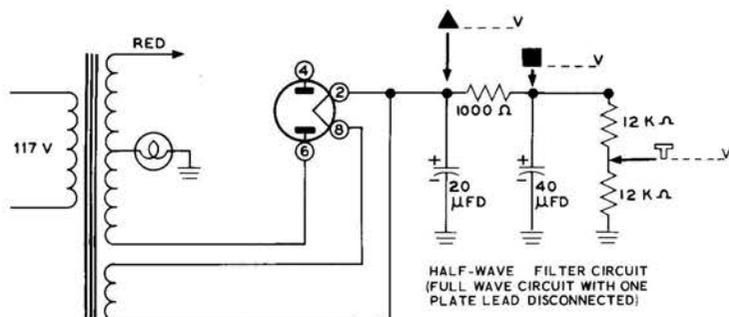
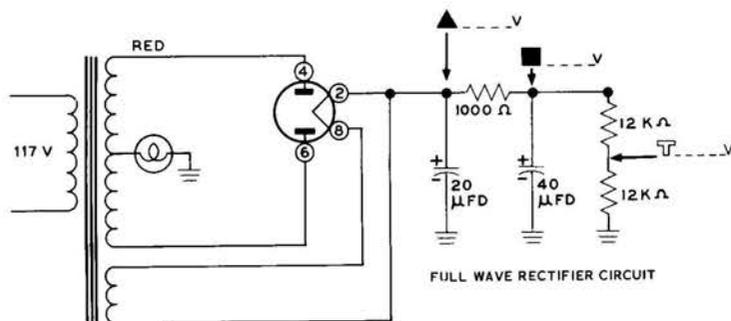

Figure 2L
Figure 2M
- (4) Figure 2L shows your power supply circuit as it is now connected, as a half-wave rectifier. Very carefully measure each of the three voltages at the points indicated, and write each voltage down in its proper blank.
- (4) Plug in the line cord of the EK-2B and turn on the switch.
- () Figure 2M shows your power supply circuit as it is now connected, as a full-wave rectifier. Once again, very carefully measure each of the three voltages at the indicated points, and write each voltage down in its proper blank.
- (4) Disconnect the red wire from pin 4 of the 5Y3 socket, and place tape over it as you did before. This has returned the circuit to the half-wave circuit of Figure 2L.
Experiment 1 showed you that a higher output voltage is obtained from a full-wave power supply circuit than is obtained from a half-wave power supply circuit. Compare the voltage that you wrote down in Figure 2L and Figure 2M. Notice that each of these voltages has become larger in Figure 2M the full-wave power supply. Remember the reason for the increase in voltage that was given when you were studying the full-wave power supply of Figure 2G. Filter capacitors were not able to discharge as quickly because twice as many pulses were present at the output of the full-wave rectifier. Thus the circuit became much more efficient. This also caused the ripple to be lower in amplitude than the ripple in the half-wave circuit.